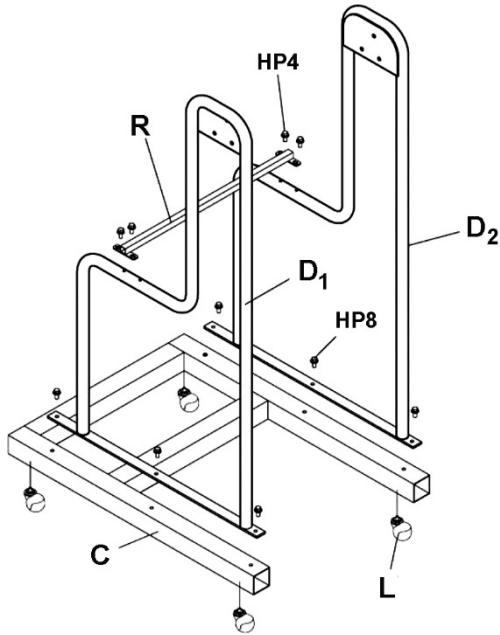

Figure 3
1. Install four casters (L) to base (C). See Figure 3.
2. Install left and right stands (D₁, D₂) to base (C) with flange head screws (HP8).
3. Install stand support (R) to base (C) with flange head screws (HP4).